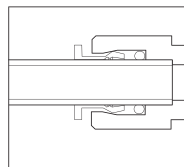

Fig.2
- ▶ Make sure to insert tubing completely (Fig. 2).